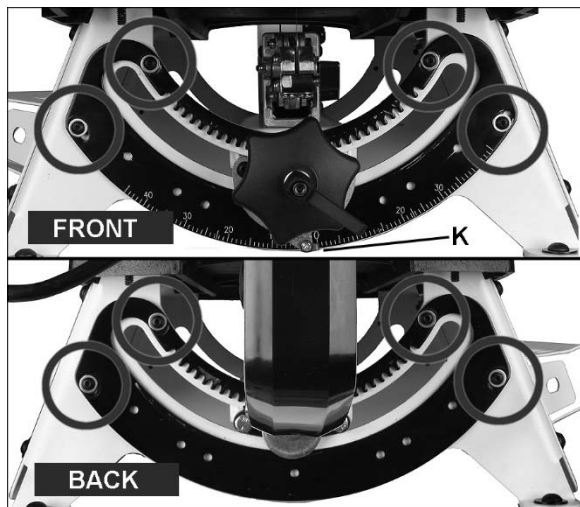

Figure 21: squaring blade to table
- If blade is still not perpendicular, loosen eight screws on trunnion plates, at front and back of saw (Figure 21)
- If needed, loosen screw on pointer (K) and adjust it to zero. Tighten screw.